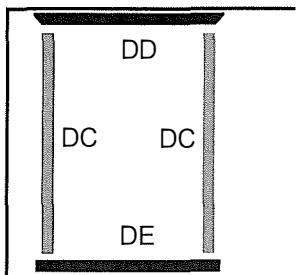

Fig 3
- 5 Layout parts DC, DD & DE (or DF internal door) as in fig 3.